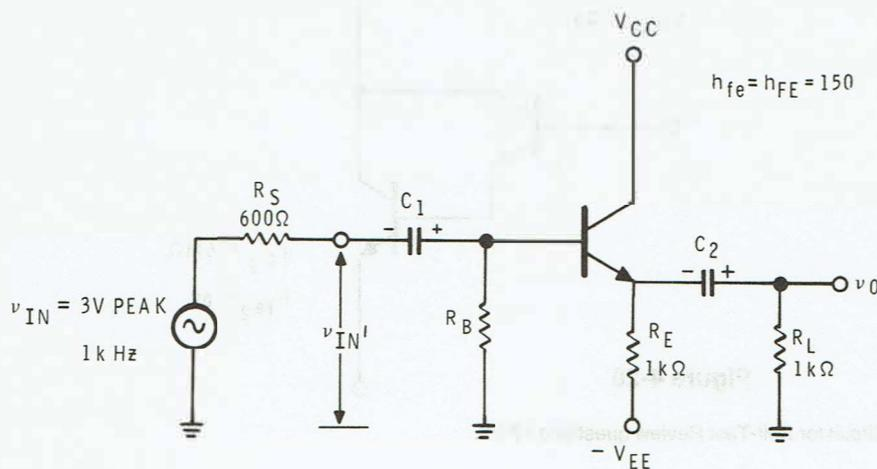

Figure 4-25
Refer to Figure 4-25 for questions 11 through 18.
11. The circuit in Figure 4-25 is to be designed so that the clipping level is approximately 6V. A reasonable value for V_{CC} is therefore _____V.